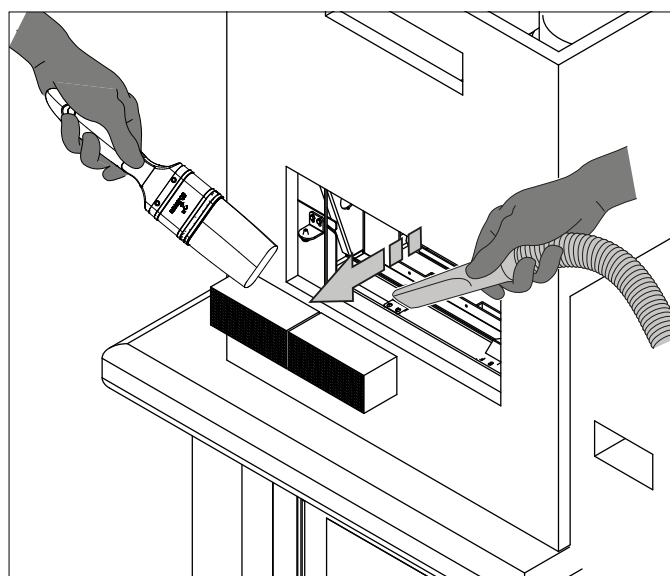

fig. 6.3
- Remove the two catalyst elements and clean them using a vacuum cleaner and a dry brush (fig. 6.3).